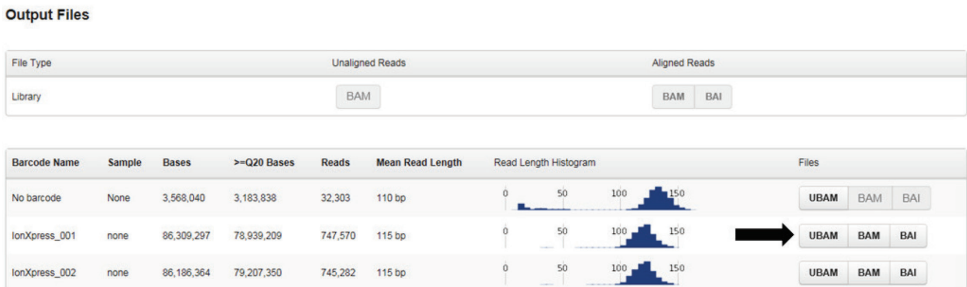

Figure 11. Unaligned reads in BAM format.
2. Click the “UBAM” button in the row corresponding to the individually indexed samples and column labeled “Files” in the table (Figure 11). These are the unaligned reads in BAM format, with the index separated for each sample. Save the .ubam file to your local disk. The file is usually several hundred megabytes to several gigabytes, depending on the size of the sequencing chip being used.